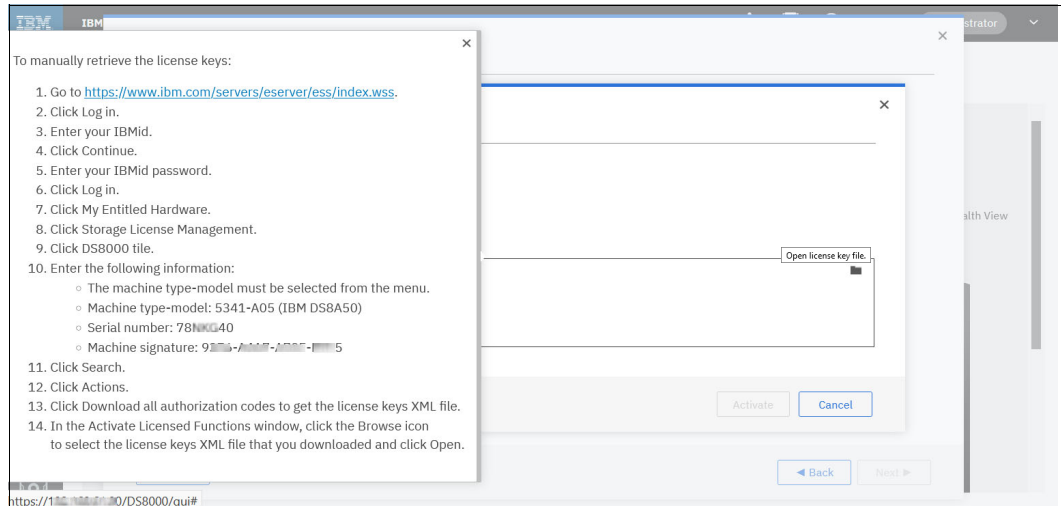

Figure 7-3 Help for adding the license keys
5. Use the help function to get further information where and how to obtain the license keys, and how to apply the XML file, as shown in Figure 7-3 on page 199.